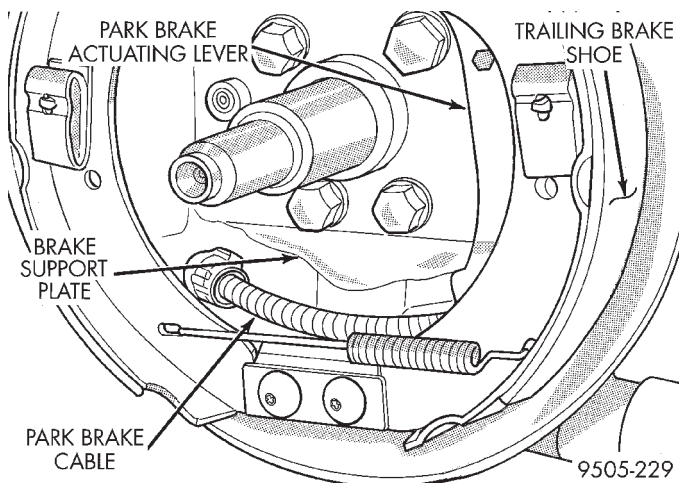

Fig. 149 Park Brake Cable At Actuating Lever
(21) Remove the park brake cable from the park brake actuating lever on the trailing brake shoe (Fig. 149).
(4) Install the park brake cable on the park brake actuating lever of the trailing brake shoe (Fig. 149).